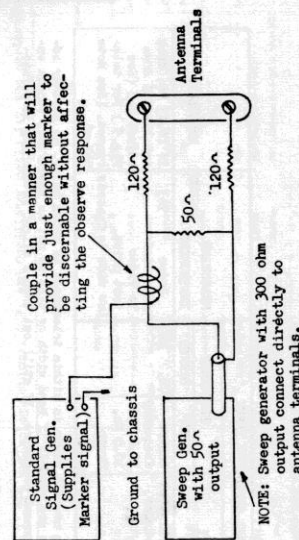

Figure 2 . GENERATOR CONNECTIONS FOR TELEVISION R.F. CHANNEL ALIGNMENT
1. Connect marker and sweep generator as shown in Fig. 2, low side to chassis.